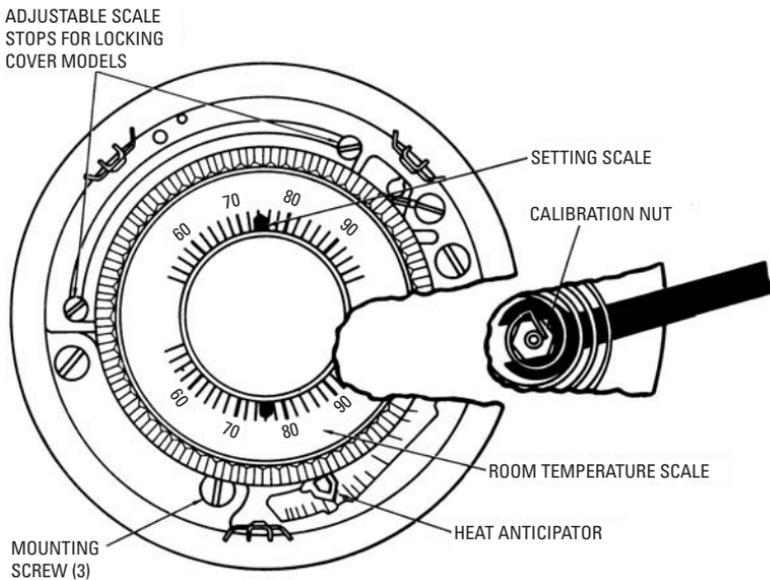

Figure 4-28 Calibration nut under bimetal coil.
5. Slip the calibration wrench onto the calibration (hex) nut under the bimetal coil (see Figure 4-28).